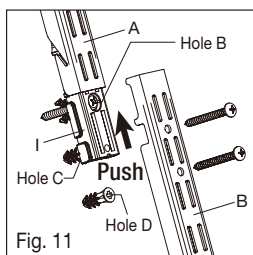

Fig. 11
- ☐ Push vertical rail joiner (I) up into upper vertical rail (A) as shown, secure the vertical rail joiner (I) on hole B with panhead screw (#12 x 2 in.) (see Fig. 11).